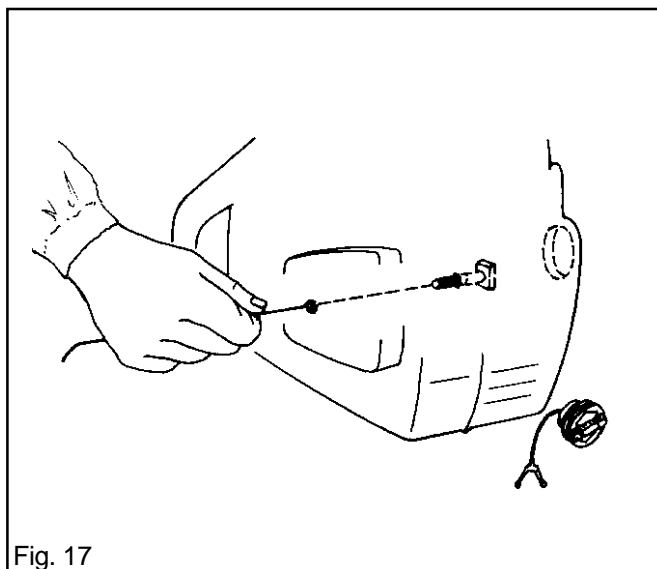

Fig. 17
4. Fix a piece of steel wire on the end of the new bolt, and thread it through the oil tank and out through the bolt hole in the crankcase. See fig. 17.